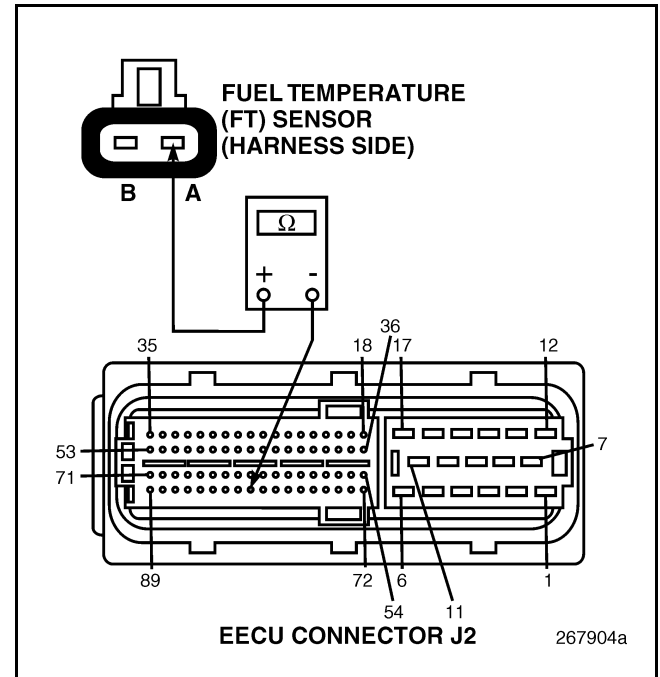

Figure 63
4. Check for continuity between pin A of the FT Sensor harness connector and EECU harness connector J2 pin 81 (see Figure 63).